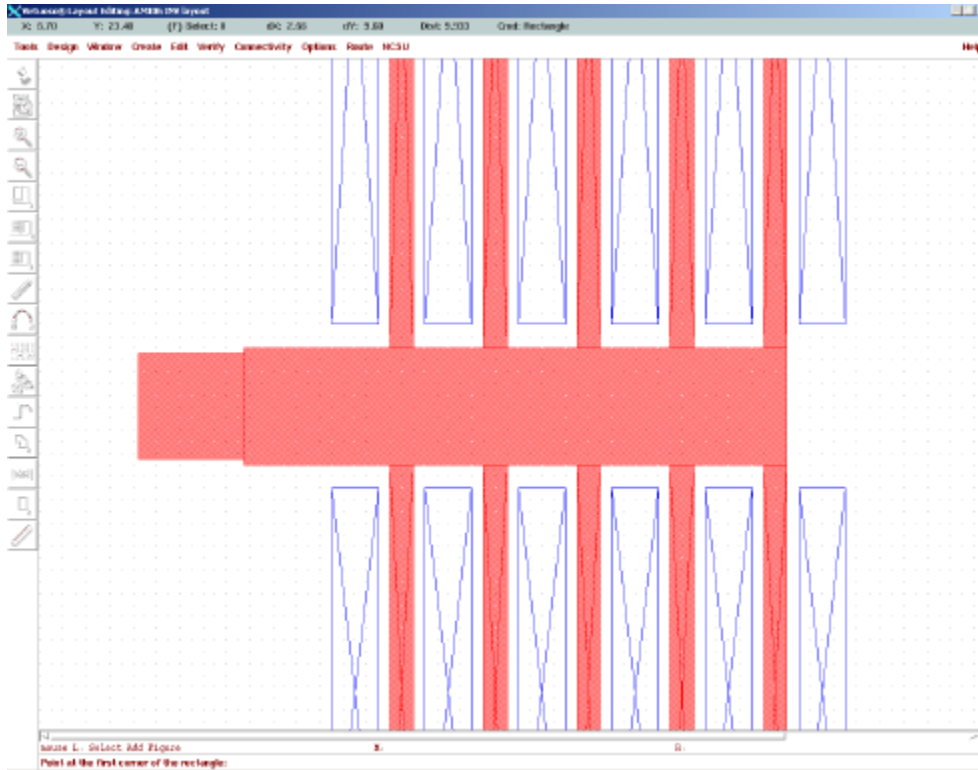

Figure 82: Connecting up the Gates of the Transistors to the Input.
2. Connect the gates of the NMOS and PMOS Transistors to each other and the input with one large rectangle as in Figure 82.